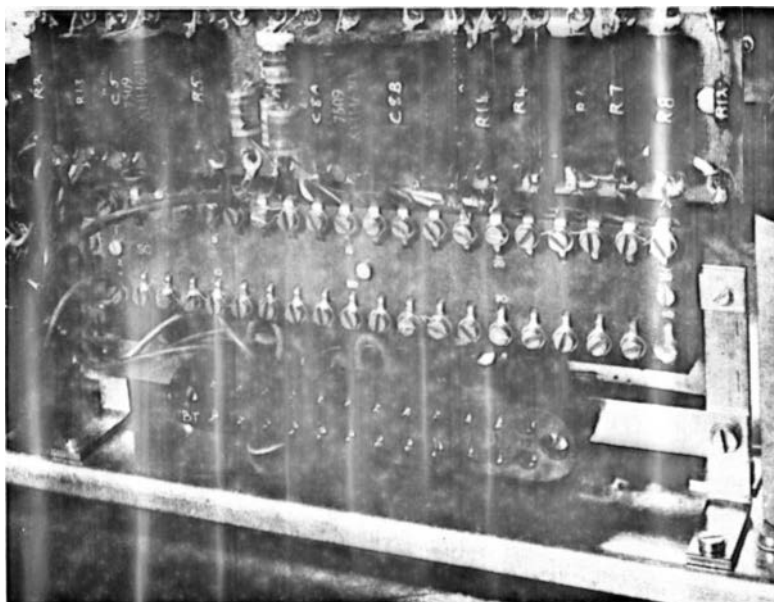
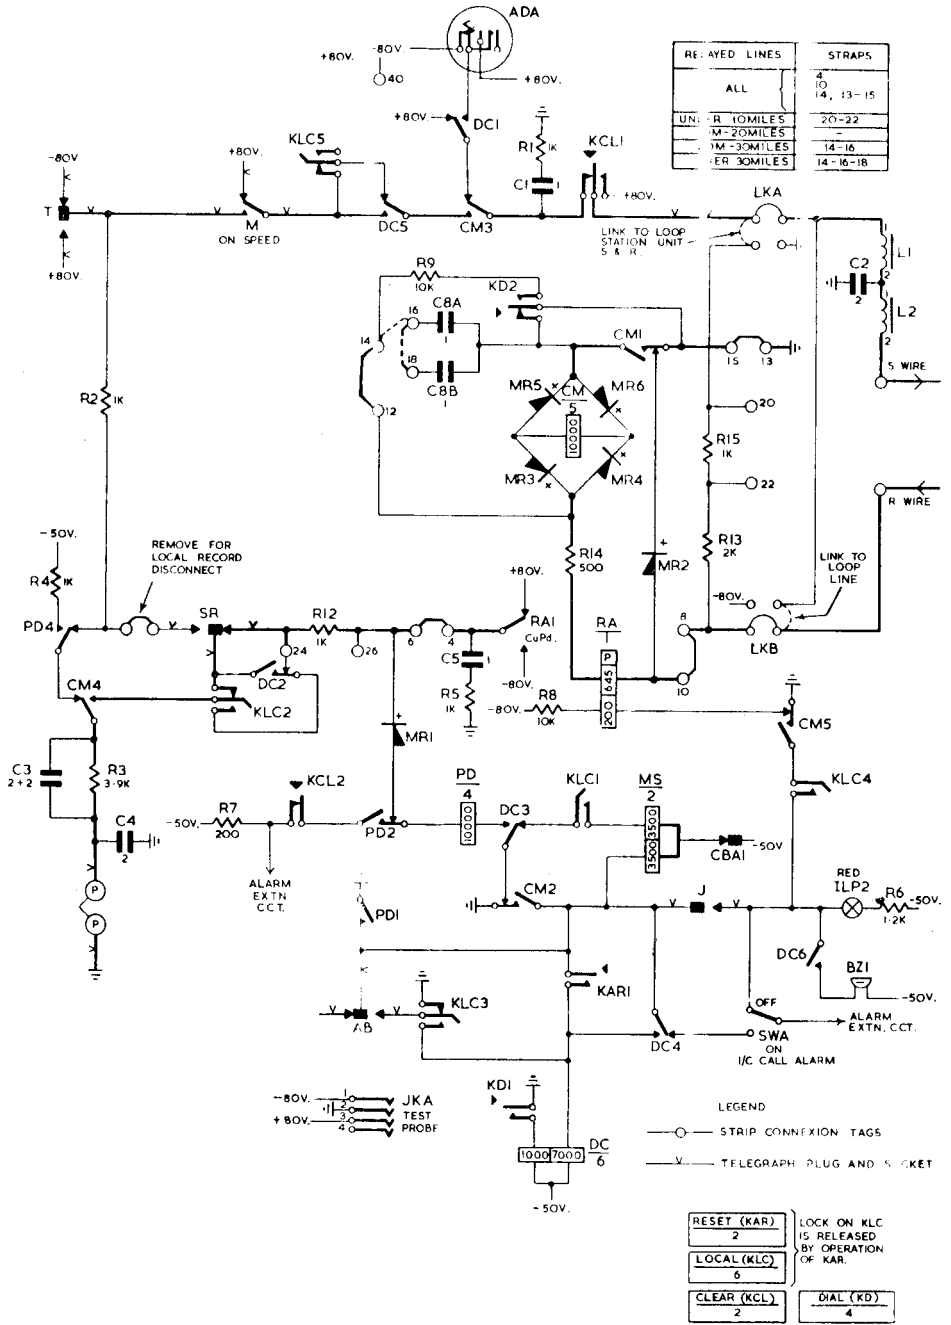

Fig. 5.5. Signalling Unit: Strapping Arrangements
Fig. 5.6 Teleprinter-only Unit: Circuit Arrangements for Relayed Lines
Relayed Physical Station Lines. When the signalling unit is used with a station line which must be relayed, a polarized relay (RA) of the appropriate type is plugged into the jack provided; the necessary circuit rearrangement is made by strapping changes on the strip connexion (Fig. 5.5). The circuit arrangement is shown in Fig. 5.6.